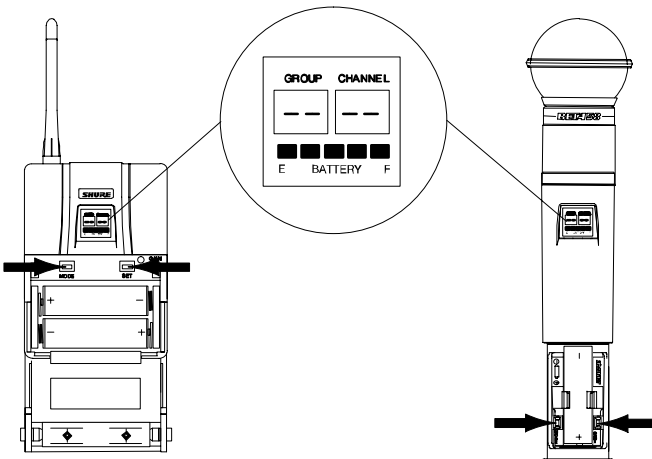

FIGURE 45
3. To verify that the frequency lock function is turned on, press the MODE or SET button. If the lock function is turned on, “— —” appears on the transmitter screen, as shown in Figure 45.